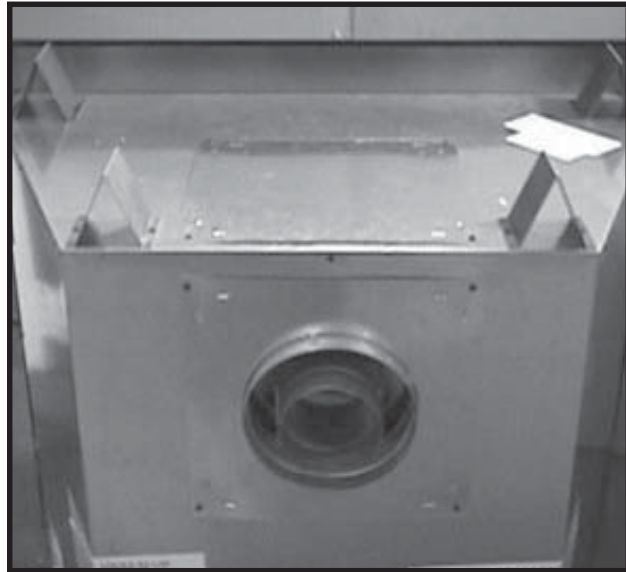

Figure 21 - Completed Conversion
- p. The appliance should look like the one shown in Figure 21 after it has been converted to a rear vent appliance.